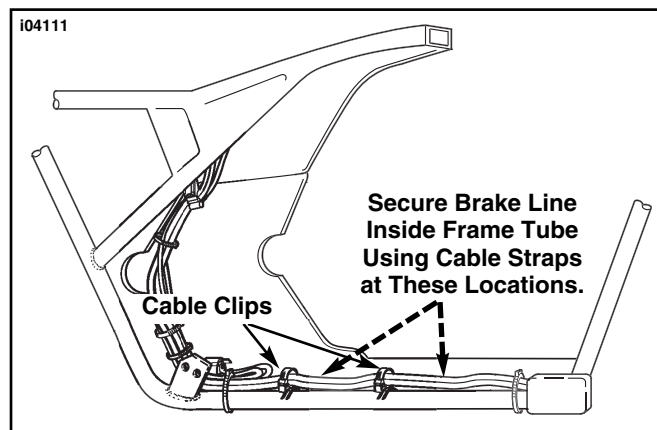

Figure 5. Relocating And Securing Brake Line
- a. See Figure 5. Open the cable clips shown and gently move brake line out of clips and down along inside of lower frame tube.
- b. Check that clutch cable does not touch brake line. See Service Parts Illustration. Obtain two Cable Straps (59) from kit and install under wiring harness, then around frame tube and brake line to secure brake line in new location.